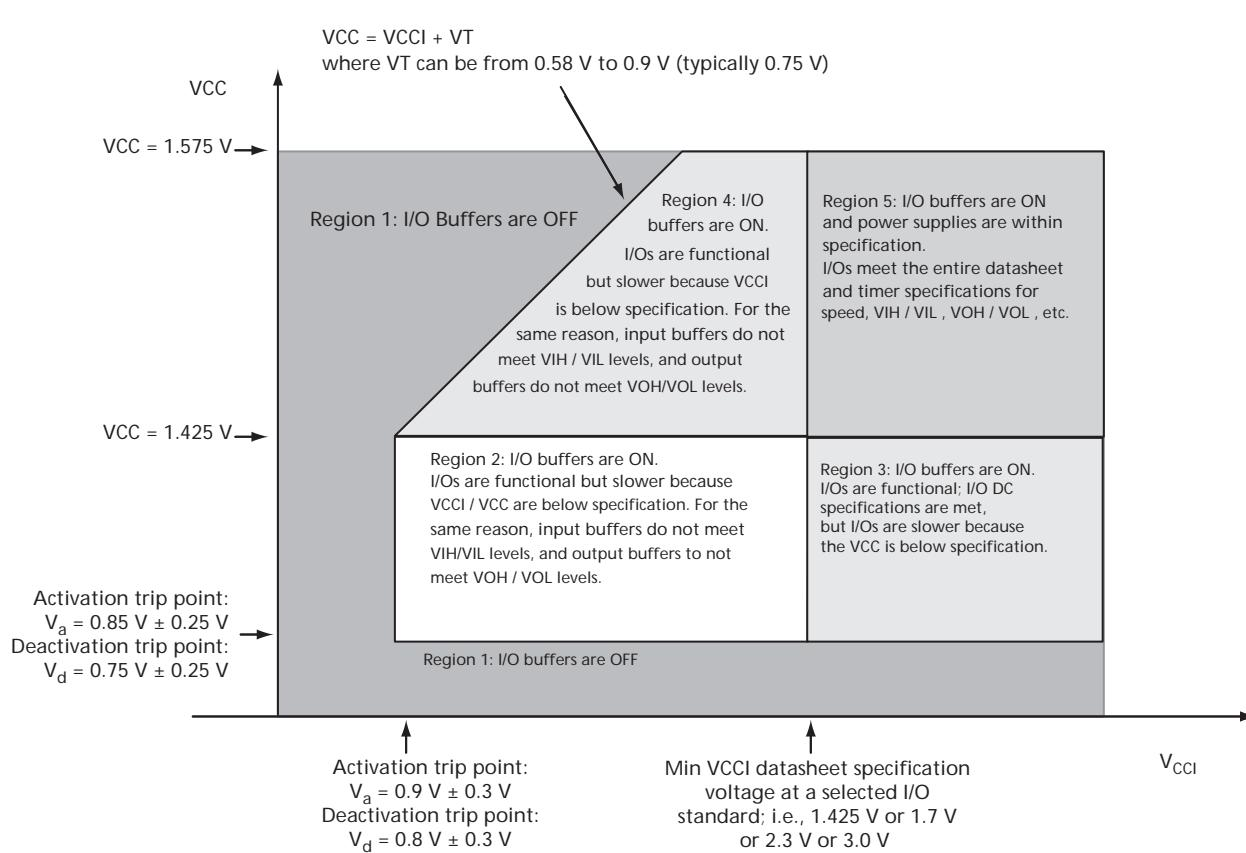
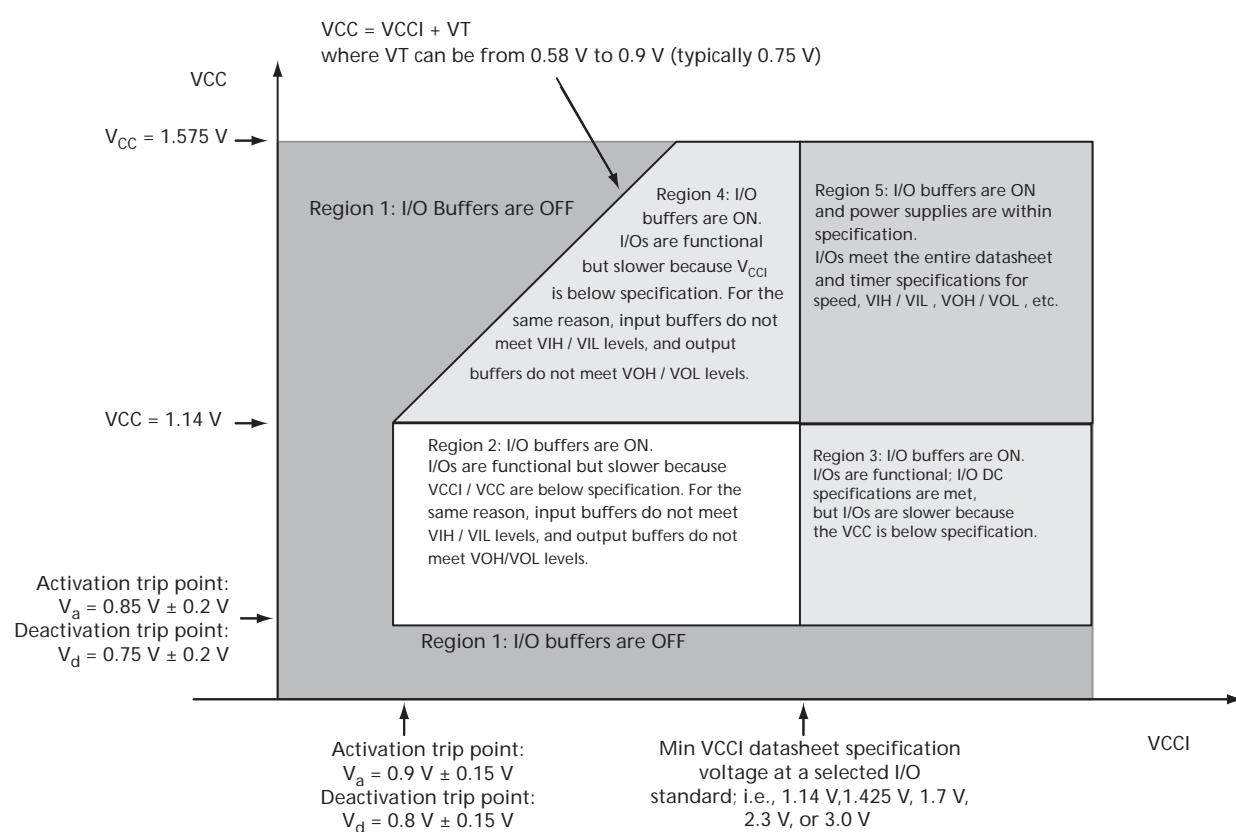

Figure 2-1 • V5 Devices – I/O State as a Function of VCCI and VCC Voltage Levels
Figure 2-2 • V2 Devices – I/O State as a Function of VCC and VCCI Voltage Levels
Sophisticated power-up management circuitry is designed into every IGLOO nano device. These circuits ensure easy transition from the powered-off state to the powered-up state of the device. The many different supplies can power up in any sequence with minimized current spikes or surges. In addition, the I/O will be in a known state through the power-up sequence. The basic principle is shown in Figure 2-1 on page 2-4.
1. VCC and VCCI are above the minimum specified trip points (Figure 2-1 and Figure 2-2 on page 2-5).
Microsemi recommends using monotonic power supplies or voltage regulators to ensure proper power-up behavior. Power ramp-up should be monotonic at least until VCC and VCCPLX exceed brownout activation levels (see Figure 2-1 and Figure 2-2 on page 2-5 for more details).